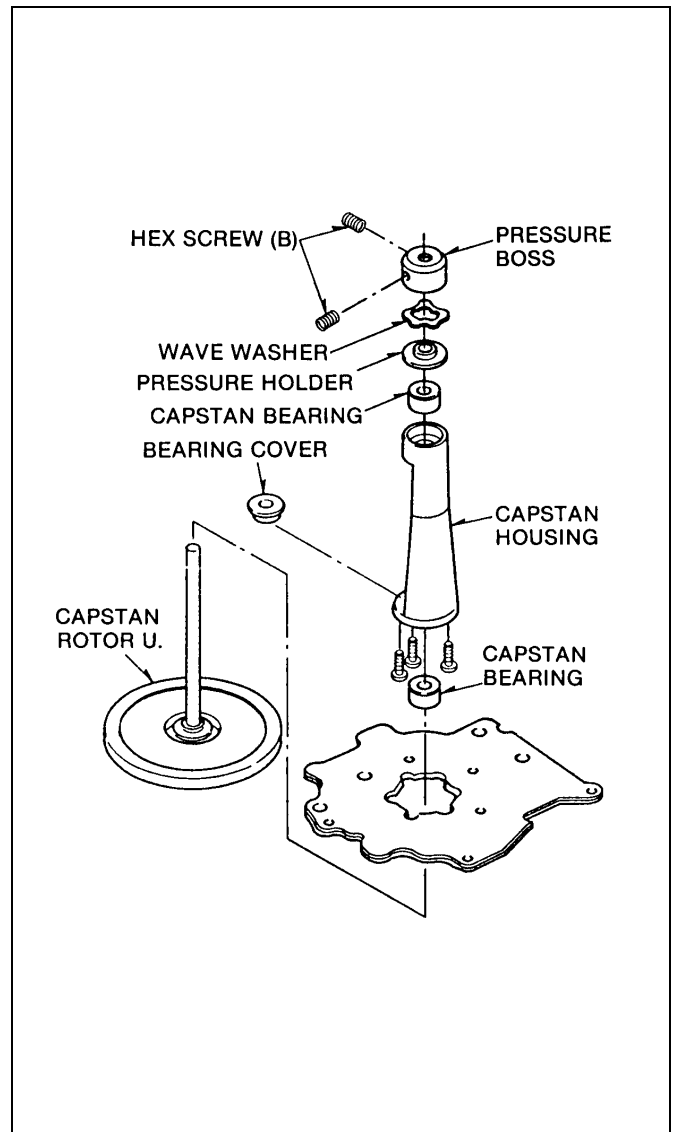

Figure 7-10-2 Capstan Motor Removal
4. Remove top panel. Then Loosen Hex, Screws (B) and remove upper side Capstan Bearing after removing Pressure Boss, Wave Washer, Pressure Holder as shown in Figure 7-10-2.
5. Pull out Capstan Roller Unit and remove lower side Capstan Bearing shown in Figure 7-10-2.